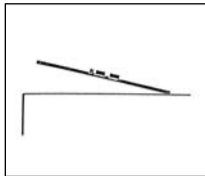

Fig. 6: Microphone mounted on plexiglass panel.
- mount the microphone in the center of a plexiglass panel about 3 feet square and align the plexiglass panel with the desired sound source (see fig. 6), or